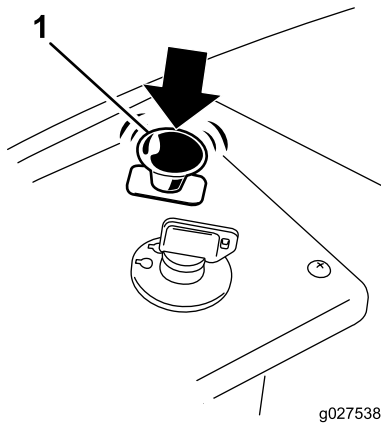

Figure 13
1. Disengage the blades by moving the blade control switch to Off (Figure 13).